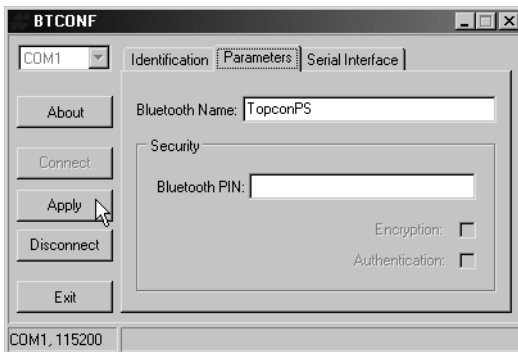

Figure 2-43. BTCONF Parameters Tab
6. Click the **Parameters** tab (Figure 2-43). The Parameters tab sets identifying and security information for your Bluetooth module. The security section allows you to set data security and unauthorized access parameters for the Bluetooth module.
7. Enter up to 14 characters to set a unique name for the Bluetooth module (Figure 2-43), and click **Apply**.